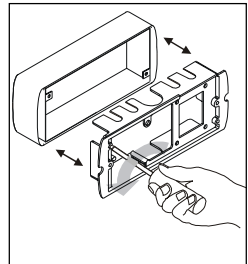

Fig. 2c: Removing mounting frame
- 2 Detach the Mounting Frame from the Wall Box by removing the two screws (Refer to Fig. 2c).